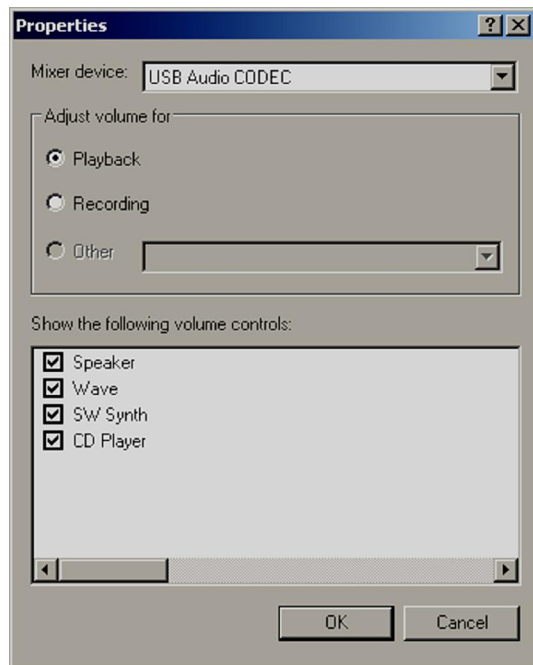

Figure 2 "Properties Window"
- The Properties window should now look like the one shown below in Figure 2. Verify that it does and then click OK.
Figure 2 ó Jumper Wiring Diagram